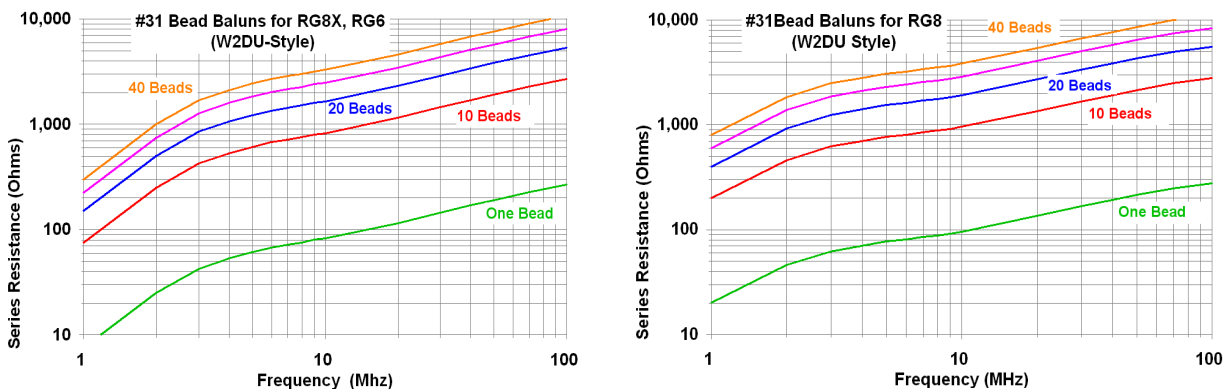

Fig 37 – Equivalent Series Resistance of #31 Bead Baluns (Computed from Fair-Rite Data)
Others have proposed variations of the W2DU balun without realizing the importance of resistance. Fig 37 is computed data for straight uncoiled "string of bead" choke baluns using 1.125" long #31 beads. As with all bead baluns, the impedance of a straight balun is approximately equal to the impedance of one bead multiplied by the number of beads in the string. The W0IYH balun used 100 #43 beads, 0.562" long, 0.25" i.d. The resonance of these beads (and thus the balun) is around 150 MHz, so these baluns are strongly inductive on the HF bands! K3LR has measured them. His results suggest considerable stray capacitance, which in turn suggests either measurement error (stray capacitance in a test setup is a common measurement error and difficult to avoid) or that his string of beads may be coiled (increasing stray C, lowering  $F_{RES}$ , and improving performance). #31 beads provide much more  $R_s$  than #43, but are still strongly inductive at HF.
**When are "string of beads" chokes OK?** Many rules are made to be broken. About ten years ago, K3LR asked me if it was OK to form a W0IYH string of beads using clamp-ons on his 10M antennas, where the feedlines had been carefully phased for stacking, and modifying their length to add multi-turn chokes wasn't practical. Fig 37 shows that the answer is yes – **if** enough beads are used to provide sufficient resistance that even if the feedline resonates with their inductance, the resistance still kills the common mode current. Fig 37 also shows that a relatively small "string of beads" can be quite effective on 6M and 2M. Fig 37 is computed for beads that are 0.562 inches long. Roughly half that number of 1.125-inch beads will provide equivalent performance.